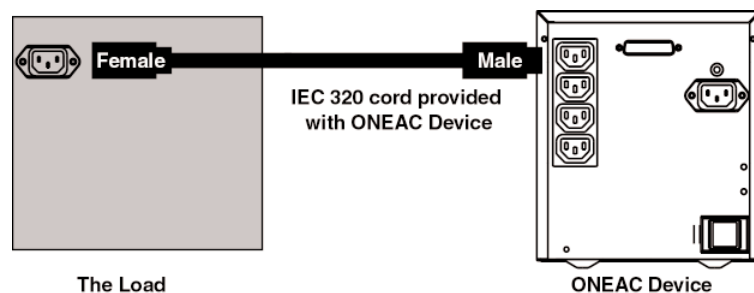

Figure 3. Connecting The Load to the ONEAC Device
Step 2: Using the IEC 320 input cord supplied with the ONEAC Device, connect The Load to the IEC 320 connectors on the ONEAC device. See figure 3.